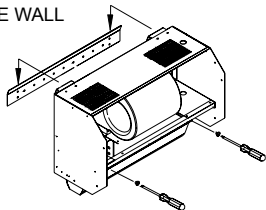

FIGURE 2
- 5 SCREW THE BOTTOM OF THE UNIT INTO THE WALL USING TWO (2) SCREWS. (SEE FIG. 2)